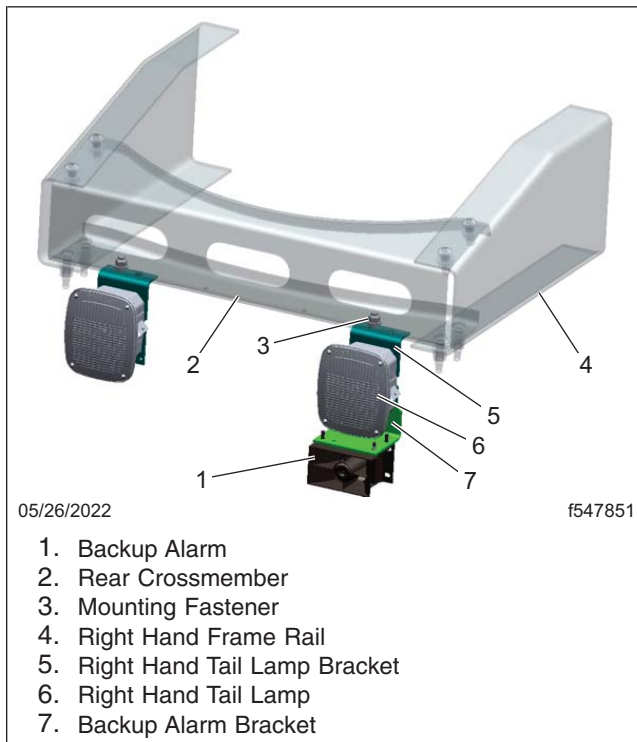
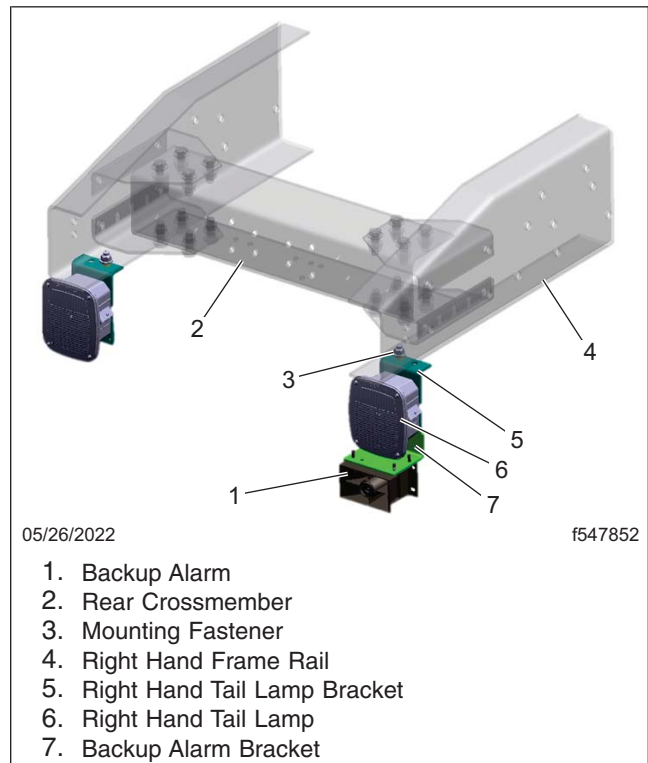

Fig. 1, Tail Lamp Bracket Removal from the Rear Crossmember
Fig. 2, Tail Lamp Bracket Removal from the Frame Rail
6. Depending on the vehicle configuration, remove the fasteners that attach the tail lamp bracket to the rear crossmember or the frame rail. For vehicles with the tail lamp bracket attached to the rear crossmember, see Fig. 1. For vehicles with the tail lamp bracket attached to the frame rail, see Fig. 2.